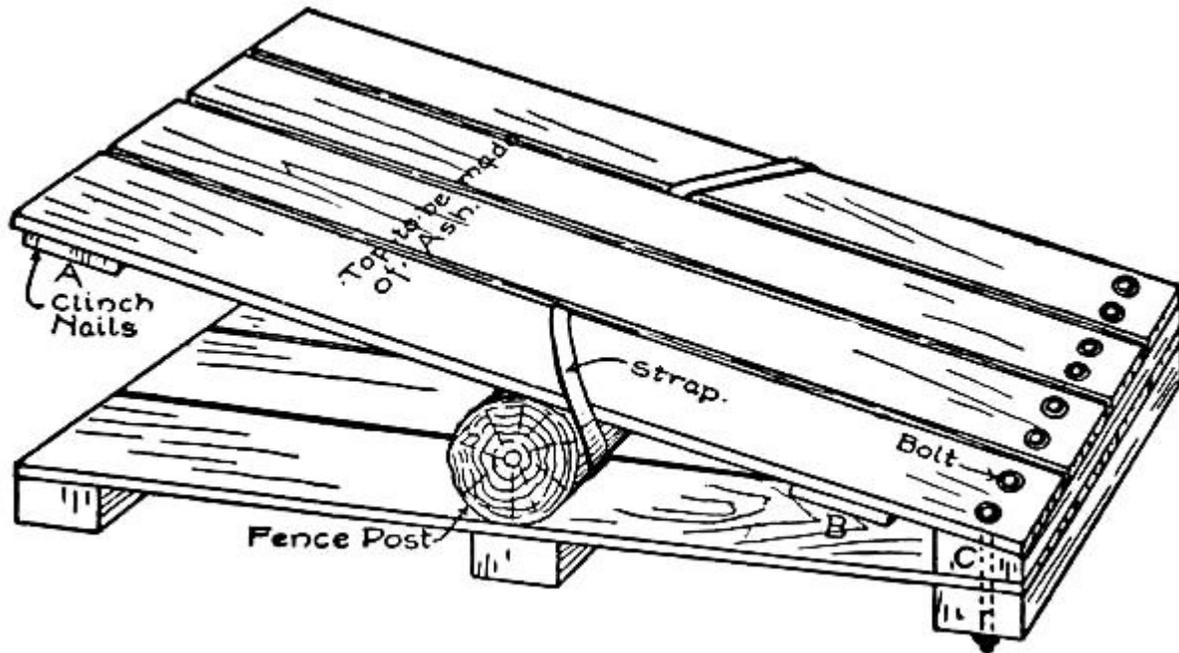
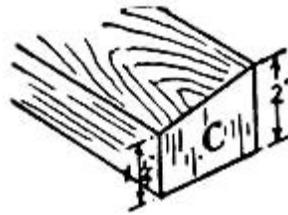

FIG. 263.—A Spring-board.
FIG. 264.
**A Spring-board** is excellent for practising the high and broad jumps, and is a piece of apparatus with which a great deal of fun may be had. Figure 263 shows a scheme for a spring-board that is easy to make. First cut three pieces of two-by-four two feet long, lay them on the ground parallel to each other eighteen inches apart, and construct a platform four feet long by two feet wide on top of them.
Cut another two-by-four two feet long, taper it as shown in Fig. 264, making it two inches thick on one edge and an inch and a quarter on the other, and nail it to one end of the platform. Secure a log two feet long (a cedar fence post will do very nicely), and fasten it across the centre of the platform parallel to the two-by-fours. The upper portion of the spring-board should be made of elastic boards, preferably ash. Construct a second platform six inches longer than the first, leaving about one-half inch between the boards, and battening the pieces together at *A* and *B* (see Fig. 263). Nail the battens securely in place, using nails of sufficient length to allow clinching on the under face of the battens. The clinching will prevent the boards from springing apart.